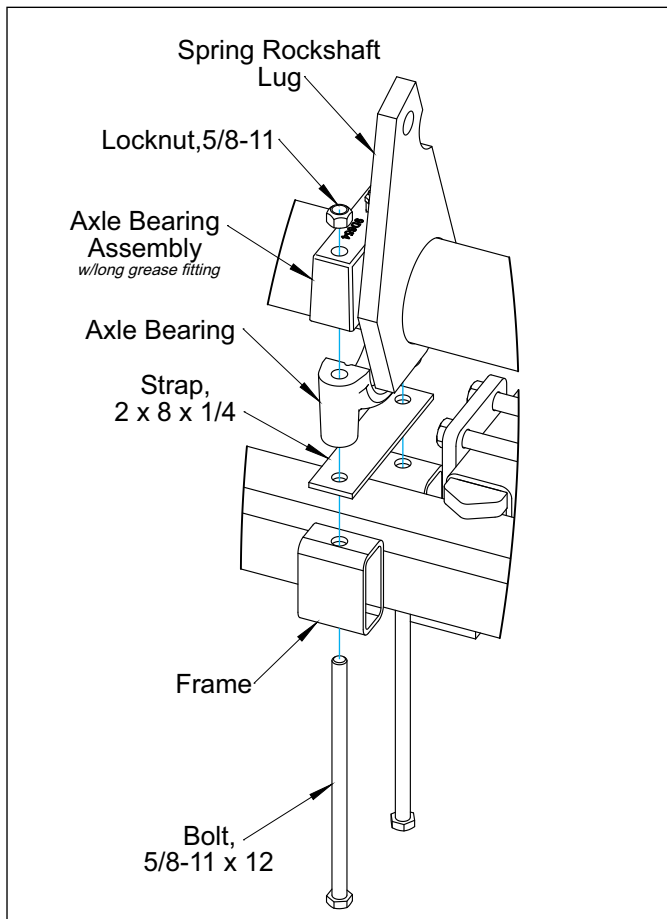

Figure 2-16: Axle Bearings 11 & 13 Shank Machines Only
4. Only 11 and 13 Shank Machines, on top of the frame by the Spring Rockshaft Cylinder Lug, one set of Axle Bearings are assembled onto the Frame with 5/8-11 x 12 Bolts and Locknuts. **See Figures 2-16, 2-20 and 2-21.**